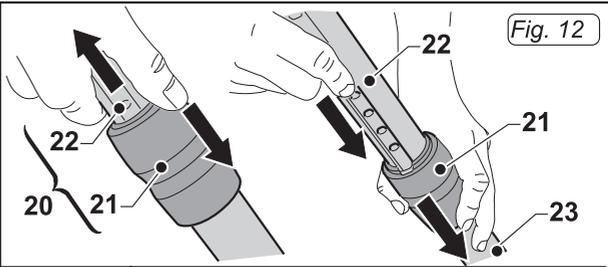

Fig. 12
- To shorten the telescopic tube, use one hand to push the ring nut (21 Fig. 12) down and the other to reinsert the top tube (22 Fig. 12) into the lower sleeve (23 Fig. 12).
- The length of the telescopic tube (20 Fig. 12) can be adjusted as follows:
- To lengthen the tube, press down on the ring nut (21 Fig. 12) and simultaneously extract the top part (22 Fig. 12) of the tube. Once the required length has been obtained, release the ring nut (21 Fig. 12) the tube will lock into the nearest locking position;